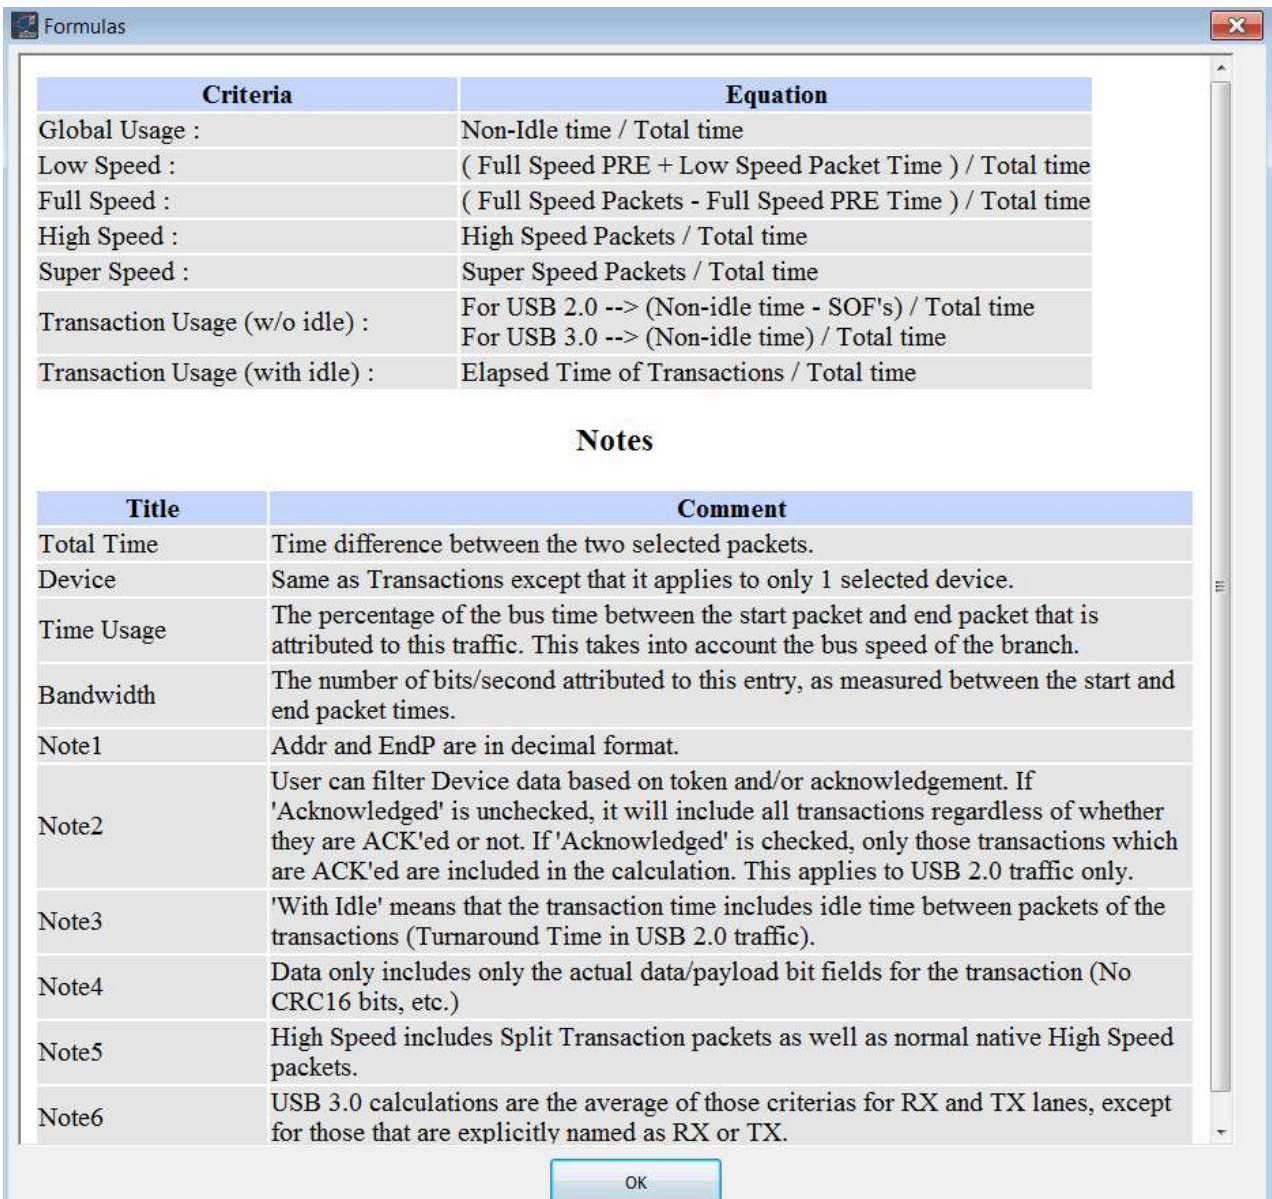

Figure 10.11: Formulas Window
4. Click the **Show Formulas** button to display the Formulas window (see Figure 10.11 on page 574, with the formulas used).